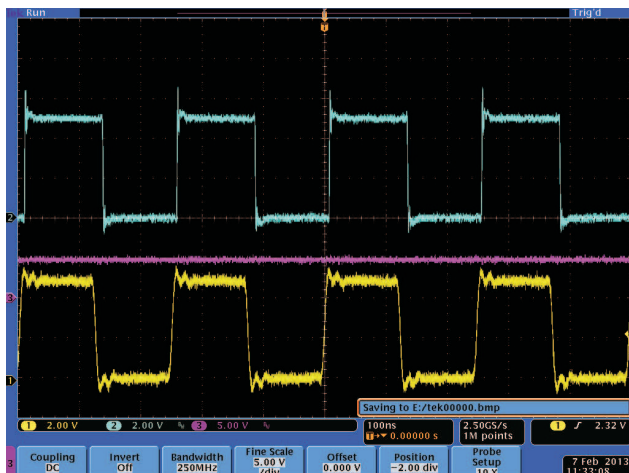
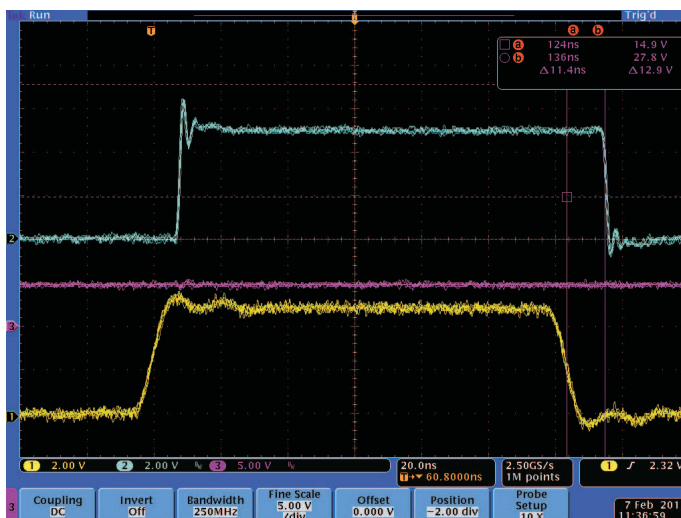

Figure 4. Non-Inverting Output
Figure 6. Non-Inverting Output, Input Falling Edge Propagation Delay
8. Record reference waveform as shown in Figure 4 through Figure 6.
Figure 4 through Figure 6 show the operation with no load on the output and non-inverting input.